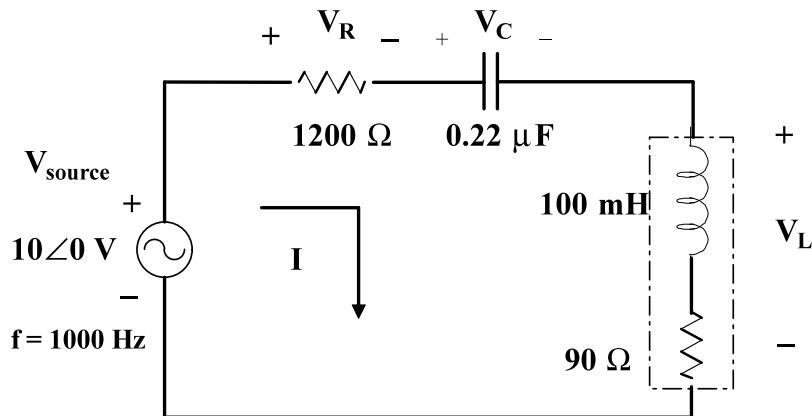

Figure 4.24 Circuit for Part 4LE.
- (a) Connect (build) the circuit shown in Figure 4.24